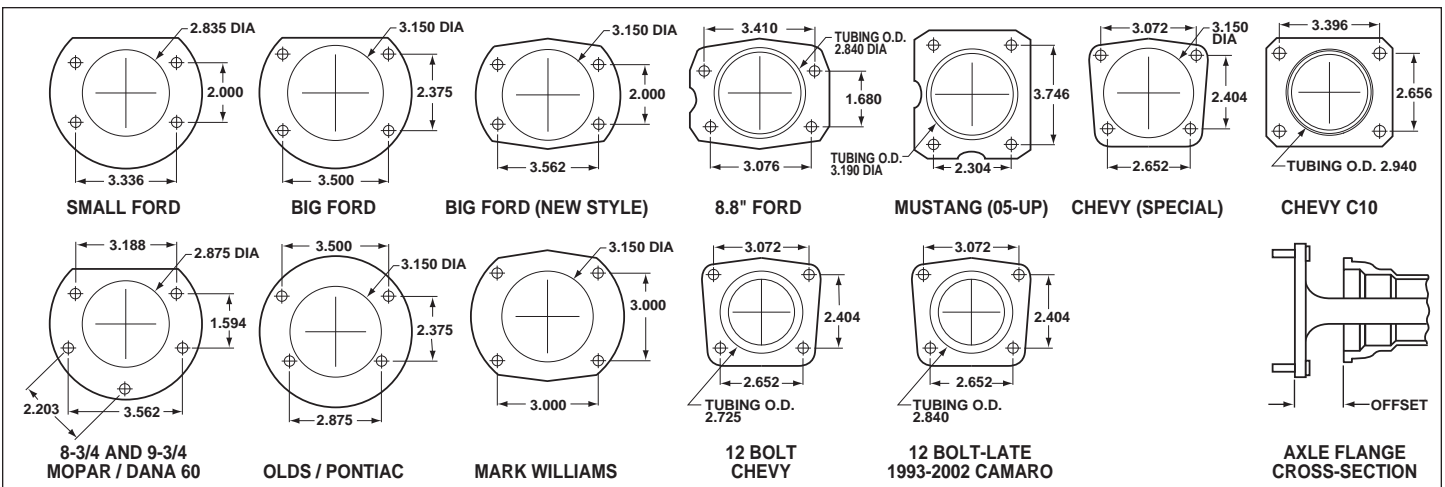

Figure 7. Rear Housing Flange Chart and Axle Flange / Offset Cross-Section
- Make sure this is the correct kit to fit the axle housing flange, not necessarily the rear end make. Many times after market manufacturers put a different make of axle housing flange on the stock rear end housing (see Figure 7, next page). Example; Big Ford rear ends with Olds-Pontiac flanges, therefore, an Olds-Pontiac rear disc brake kit would be the correct kit to order.
- Dimension from wheel side of axle flange to wheel side of axle housing flange (see Figure 7, lower right hand corner). This dimension is critical to ensure proper alignment of the rotor to the caliper, and should match offset given in the kit description.